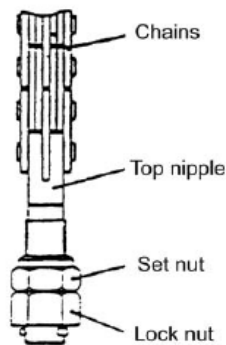

Fig. 6-19
- (1) Place a salver on the forks and make the forklift stop on the horizontal ground.
- (2) Make the forks and salver descend to the ground.
- (3) Take down connector on top of the chains. And take out chains from sheave. (See Fig. 6-19)
- (4) Make the inner mast rise.
- (5) The forklift can be removed when the fork bracket disengaged from the outer mast.
- (6) Replacing main rollers